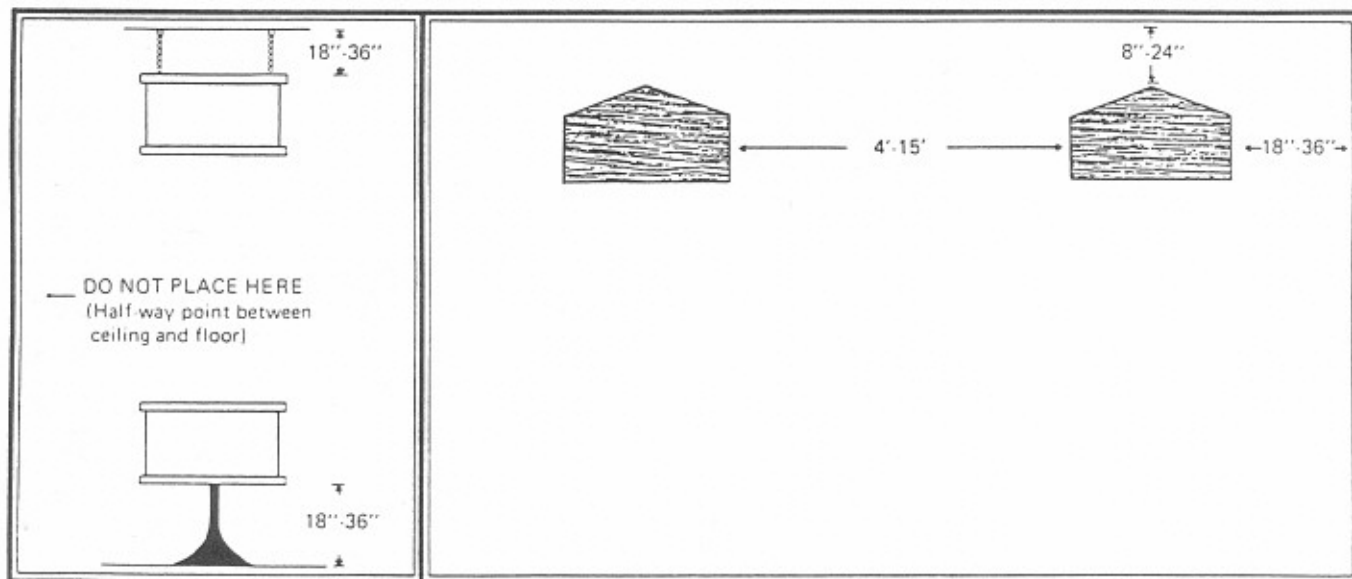

FIG. 1
The angled (vee shaped) grille cloth panels are the back of the 901. Point the vee toward the wall. The distance of the speakers from the wall is very important. The point of the vee should be 12 inches from the wall. (Although the 901 was designed to be placed 12 inches from a reflecting wall, satisfactory performance can be obtained anywhere within the range from 8 to 24 inches.) The point of the speaker should be aimed directly at the reflecting wall, and NOT directly into a corner (See Fig. 1).
2. If you are hanging the speakers from the ceiling, they should be positioned no closer than 18 inches from the ceiling. DO NOT place your speakers exactly half-way between the floor and the ceiling. (See Fig. 1.)